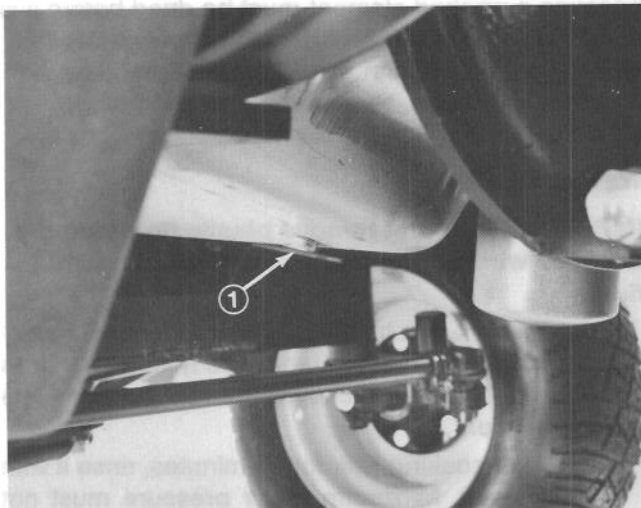

Figure 40
ENGINE OIL AND FILTER (Fig. 40)
1. Remove drain plug (Fig. 40) and let oil flow into drain pan. When oil stops, install drain plug and new plug seal.